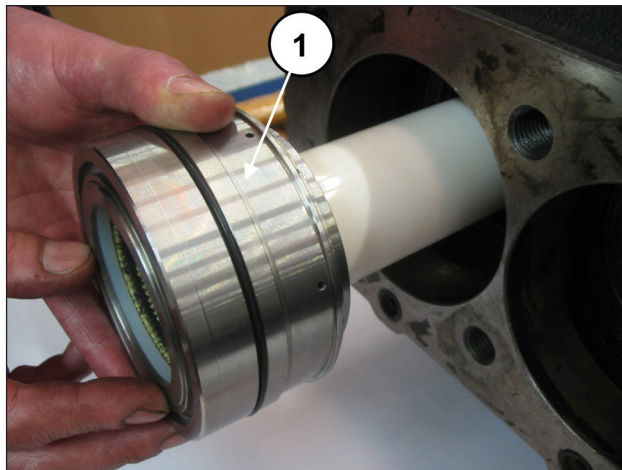
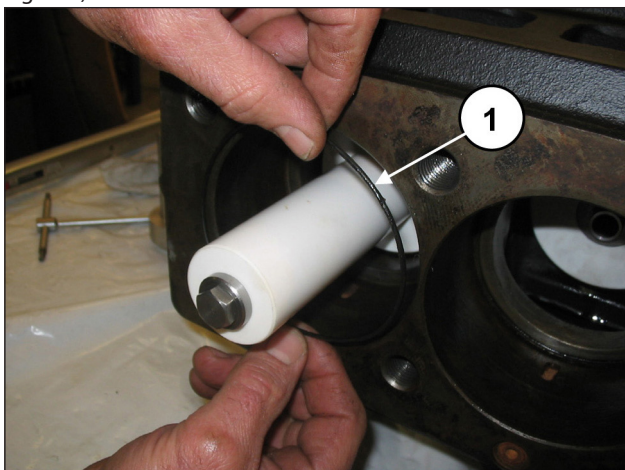

Fig. 168
Fig. 167
Calibrate the screws with a torque wrench as indicated in chapter 3. Insert the O-ring inside the pump casing (pos. ①, Fig. 167) and then the previously-assembled liner-seal support block (complete with the same O-ring) to end stroke (pos. ①, Fig. 168).